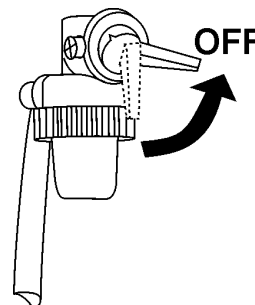

Figure 23. Engine Fuel Valve Lever (OFF)
- Place engine fuel valve lever (Figure 23) in the **OFF** position.